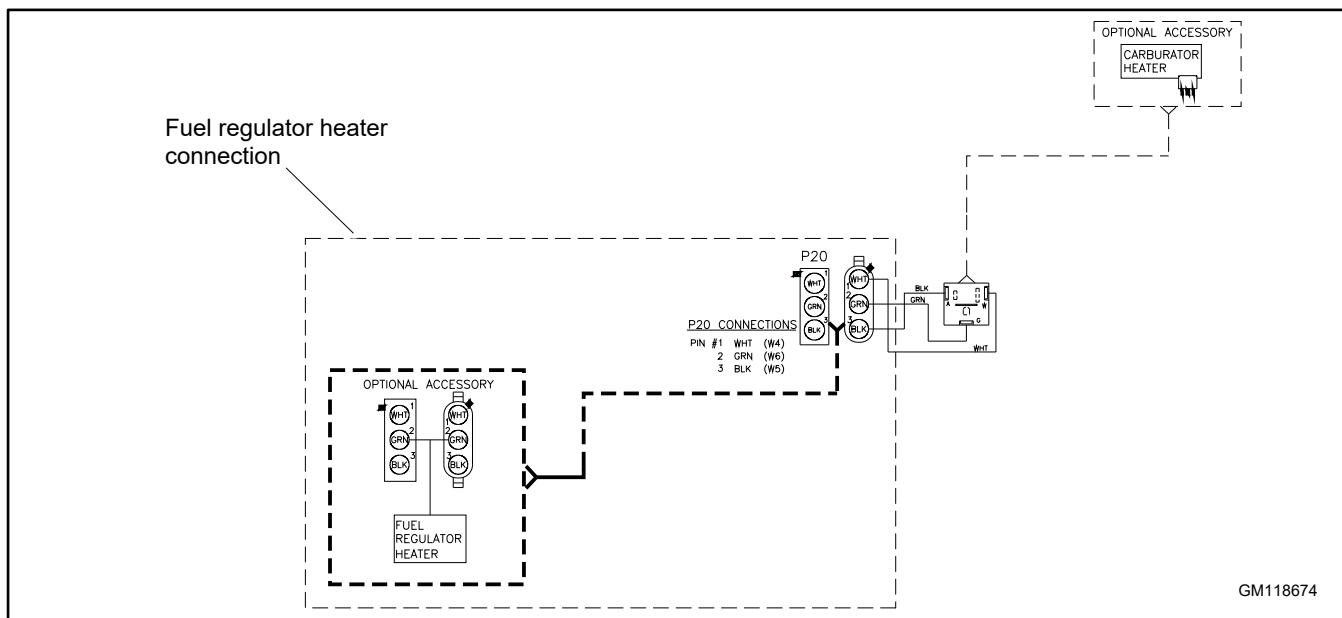

Figure 59 Fuel Regulator Heater Connection, 26RCA(L)
1. Disconnect the receptacle harness from connector P20. See Figure 59.